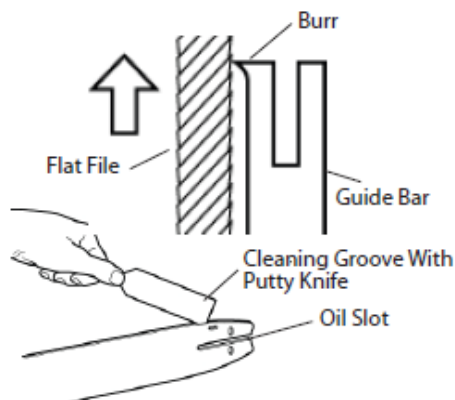

Fig. 4a
- Use a flat file to remove burrs from the sides of the guide bar and clean the groove with a putty knife (see Fig. 4a).